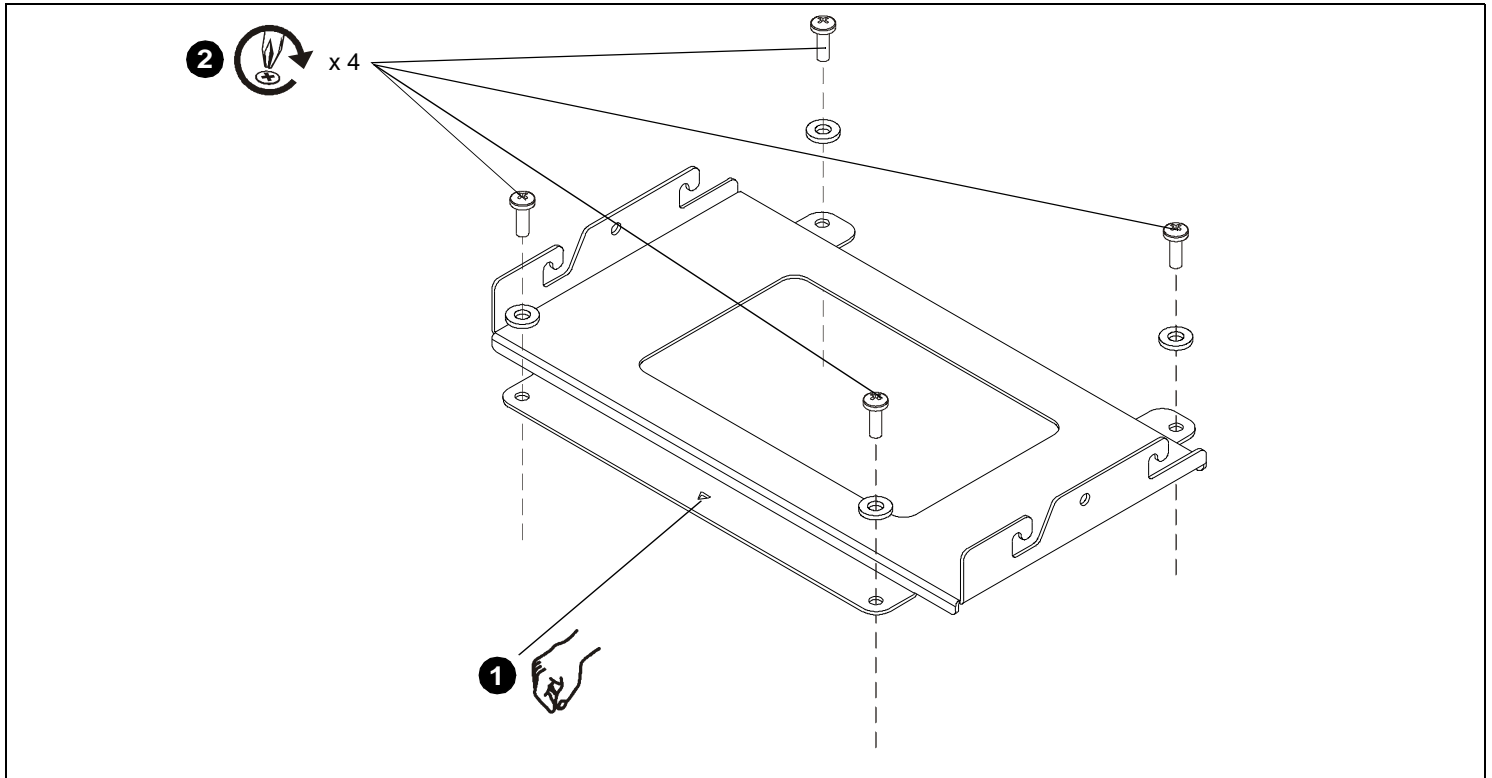

Figure 1
1. Lower custom HB bracket onto top of projector. Ensure that triangle in bracket points toward front of projector. (See Figure 1)
2. Attach HB bracket to projector using four M8 x 16mm Phillips pan head screws and four M8 flat washers through four holes in the HB bracket. (See Figure 1)